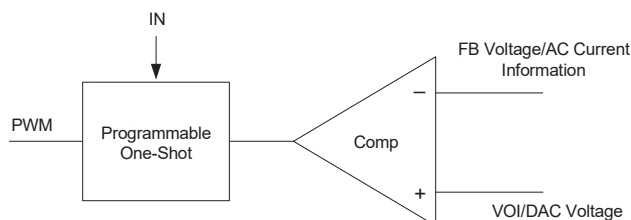

Figure 9. Simplified Control Schematic
The control algorithm of AOZ22701QI is constant-on time PWM control with input feed-forward. The simplified control schematic is shown in Figure 9. The high-side switch on-time is determined solely by a one-shot whose pulse width is inversely proportional to input voltage (IN). The one-shot is triggered when the internal VOI/DAC voltage is higher than the combined information of output voltage and the AC current information of inductor, which is processed and obtained through the sensed low-side MOSFET current once it turns-on. The added AC current information can help the stability of constant-on time control even with pure ceramic output capacitors, which have very low ESR. The AC current information has no DC offset, which does not cause offset with output load change, which is fundamentally different from other V^2 constant on-time control schemes.